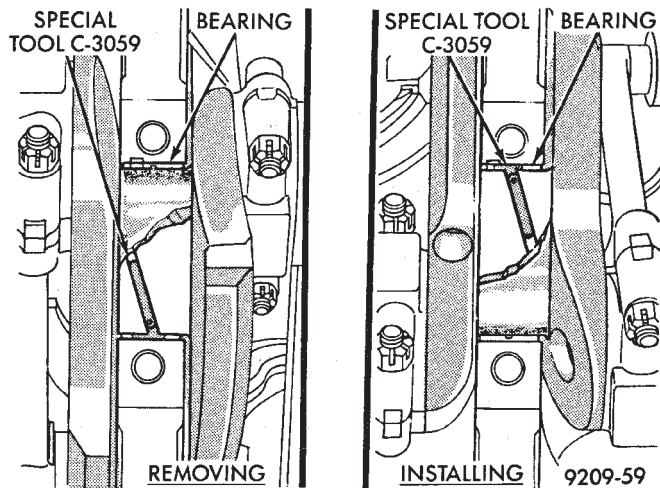

Fig. 37 Upper Main Bearing Removal and Installation with Tool C-3059
(1) Remove the oil pan.
(2) Remove the oil pump from the rear main bearing cap.
(3) Identify bearing caps before removal. Remove bearing caps one at a time.
(4) Remove upper half of bearing by inserting Crankshaft Main Bearing Remover/Installer Tool C-3059 into the oil hole of crankshaft (Fig. 37).
(5) Slowly rotate crankshaft clockwise, forcing out upper half of bearing shell.
(1) Start bearing in place, and insert Crankshaft Main Bearing Remover/Installer Tool C-3059 into oil hole of crankshaft (Fig. 37).
(2) Slowly rotate crankshaft counterclockwise sliding the bearing into position. Remove Tool C-3059.
(3) Install the bearing caps. Clean and oil the bolts. Tighten the capbolts to 115 N·m (85 ft. lbs.) torque.
(4) Install the oil pump.
(5) Install the oil pan.